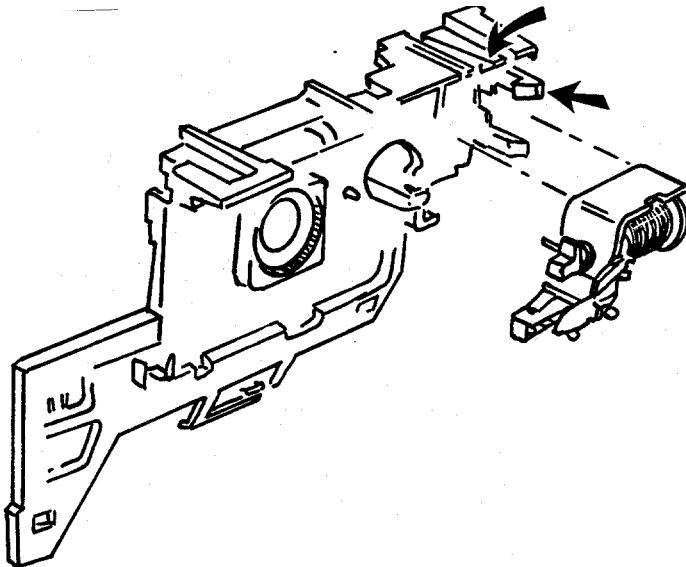

Fig. 26 Removing Solenoid & Plunger from Base Block
30. Using a soldering aid, remove the Solenoid from the Base Block by releasing the two tangs (see Fig. 26) Carefully pry out the Solenoid, with plunger in place, using the soldering aid as a lever.